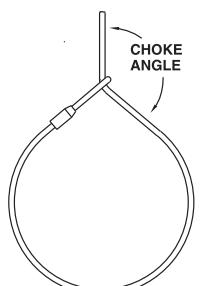

Figure 1
1. The eye of the sling must be in the choked position (around live line). Choker hitch applications should comply with the requirements of ASME B30.9 Slings. Install the choker hitch to provide a minimum choke angle of 120 degrees (See Figure 1). Refer to ASME B30.9 for required de-rating of the sling if choke angle is less than 120 degrees.
- Never use a hoist hook that is worn beyond the limits shown in Figure 1.